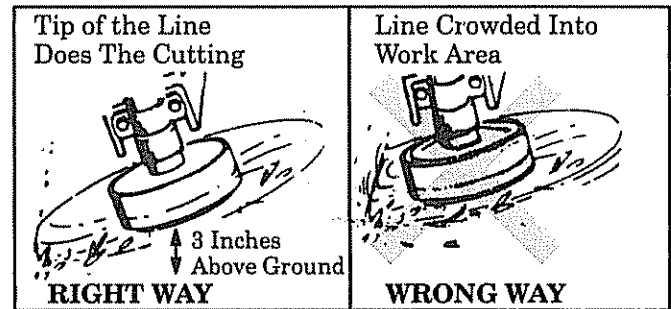

Figure 6
- The tip of the line does the cutting. You will achieve best performance and minimum line wear by not crowding the line into the cutting area. The right and wrong ways are shown in Figure 6.